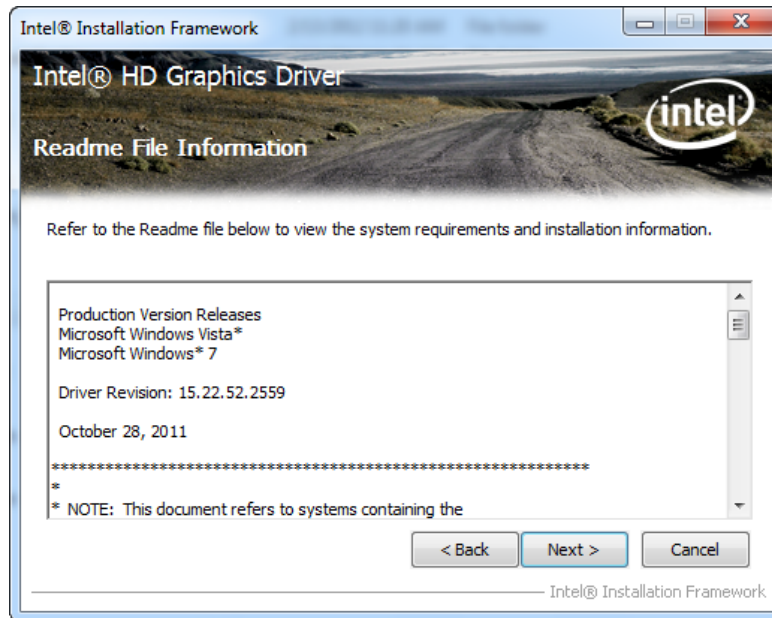

Figure 6-12: Graphics Driver Read Me File
Step 12: The **Read Me** file in Figure 6-12 appears.